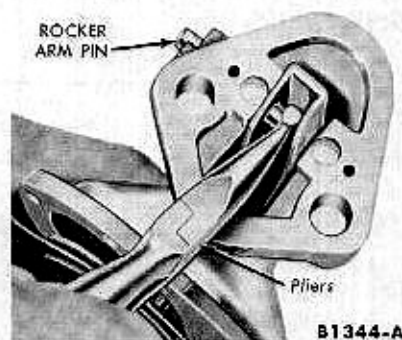

FIG. 8—Rocker Arm Pin Removal or Installation
6. Press the fuel pump diaphragm into the fuel pump body to release the tension on the rocker arm and allow the rocker arm pin to fall out. If the pin does not come out freely, use needle nose pliers (Fig. 8).
2. Align the rocker arm pin holes by applying slight pressure on the diaphragm spring, then install the rocker arm pin (Fig. 8).